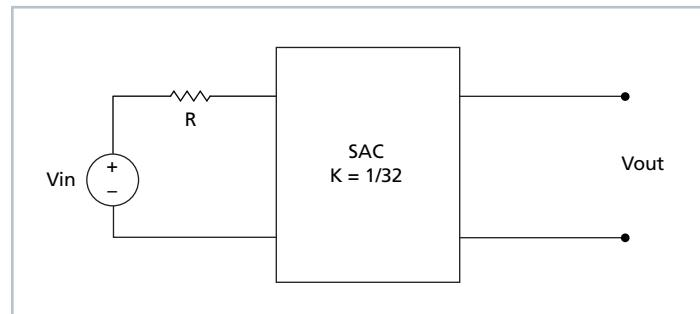

Figure 2 — $K = 1/32$ Sine Amplitude Converter™ with series input resistor
The use of DC voltage transformation provides additional interesting attributes. Assuming for the moment that $R_{OUT} = 0 \Omega$ and $I_Q = 0 A$, Eq. (3) now becomes Eq. (1) and is essentially load independent. A resistor R is now placed in series with V_{IN} as shown in Figure 2.
Assuming that $R = 1 \Omega$, the effective R as seen from the secondary side is 0.98 mΩ, with $K = 1/32$ as shown in Figure 2.